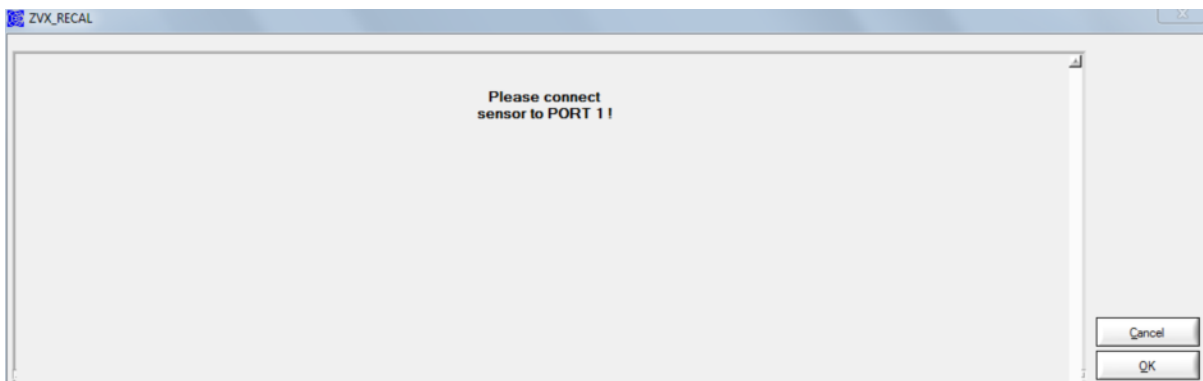

Fig. 6-7 Prompt to connect the DUT
- Connect the DUT to the network analyzer and confirm the procedure (Fig. 6-7)